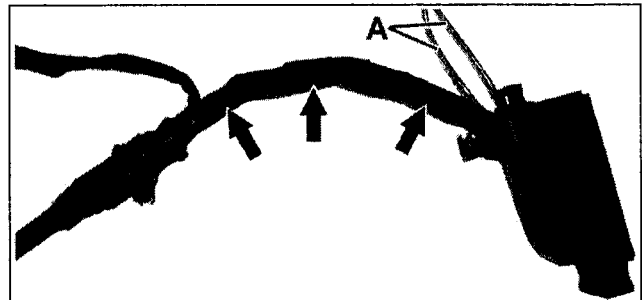

Figure 11
**Do not** wrap the ground wiring harness (A, Figure 11) into the SBC wire harness.